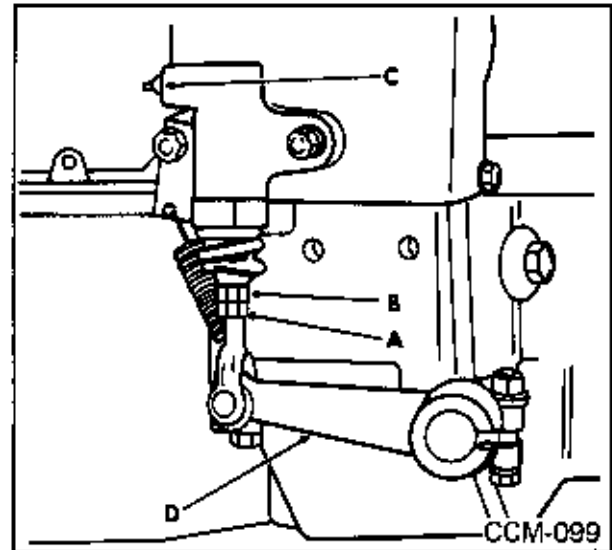

Fig. 94 Clutch Slave Cylinder
2. Attach a bleeder hose to the bleeder valve on clutch slave cylinder (Fig. 94) and submerge lower end of hose in hydraulic fluid in a transparent bottle.
2. Loosen locknut, ("A", Fig. 94)
4. Move clutch arm "D" down until release bearing just contacts clutch fingers (Fig. 94) and turn jam nut "B" finger tight against cylinder push rod.
5. Back off jam nut "B", (Fig. 94), four (4) to five (5) turns and lock in place with locknut "A", (Fig. 94). Test clutch operation. Clutch pedal free-travel should be from 2 to 2 3/8".